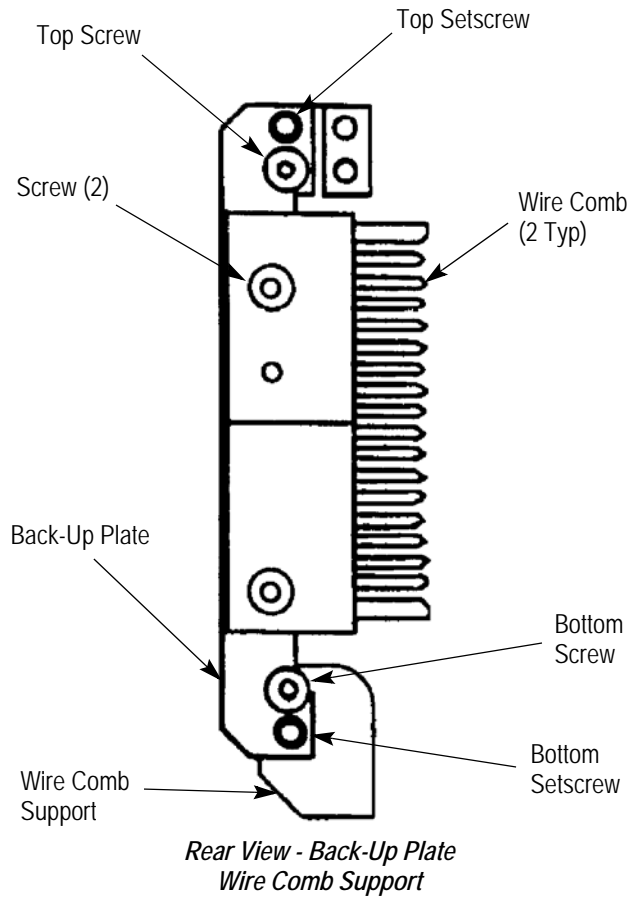

Figure 10
4. Loosen (approximately one turn) the screws that secure the back-up plates. See Figure 10.
3. Loosen TOP screw and setscrew; and BOTTOM screw and setscrew, securing backup plate to wire comb support. See Figure 10.